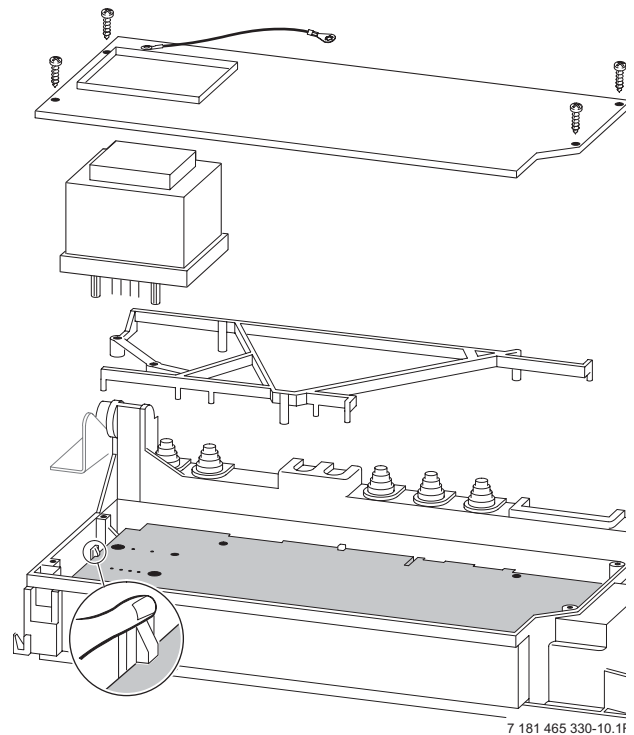

Fig. 55
- ▶ Unscrew four fixing screws from cover plate. Refer to fig. 55.